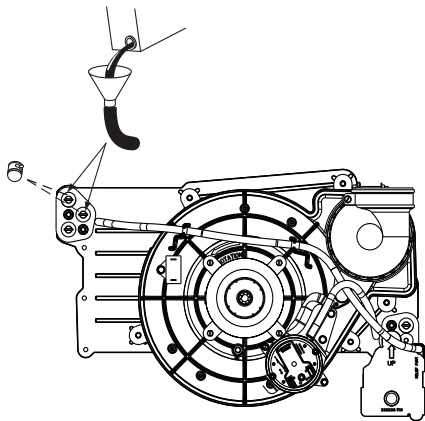

Fig. 61 – Priming Condensate Trap
1. Remove upper and middle collector box drain plugs opposite of the condensate trap. See Fig. 61.